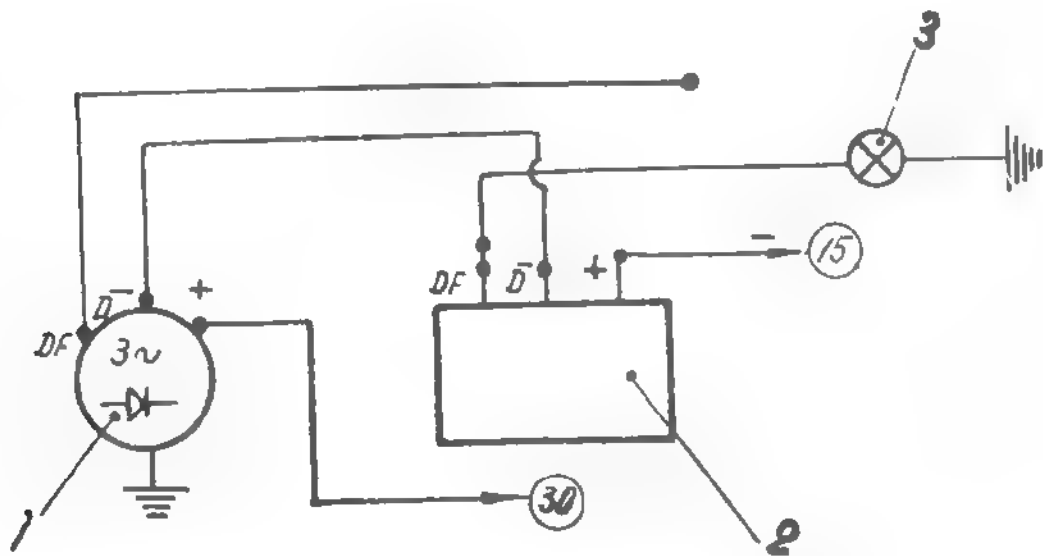

Fig. 4.36. CONNECTION DIAGRAM FOR CHECKING EXCITATION CIRCUIT OF VOLTAGE REGULATOR.
1. Alternator; 2. Voltage regulator; 3. Test lamp; (15) and (30). connecting leads to respective terminals of ignition switch.
- By closing the circuit with the switch key, the test lamp should light; if not, connect test lamp between green lead contact plug and the ground (see Fig. 4.36.).